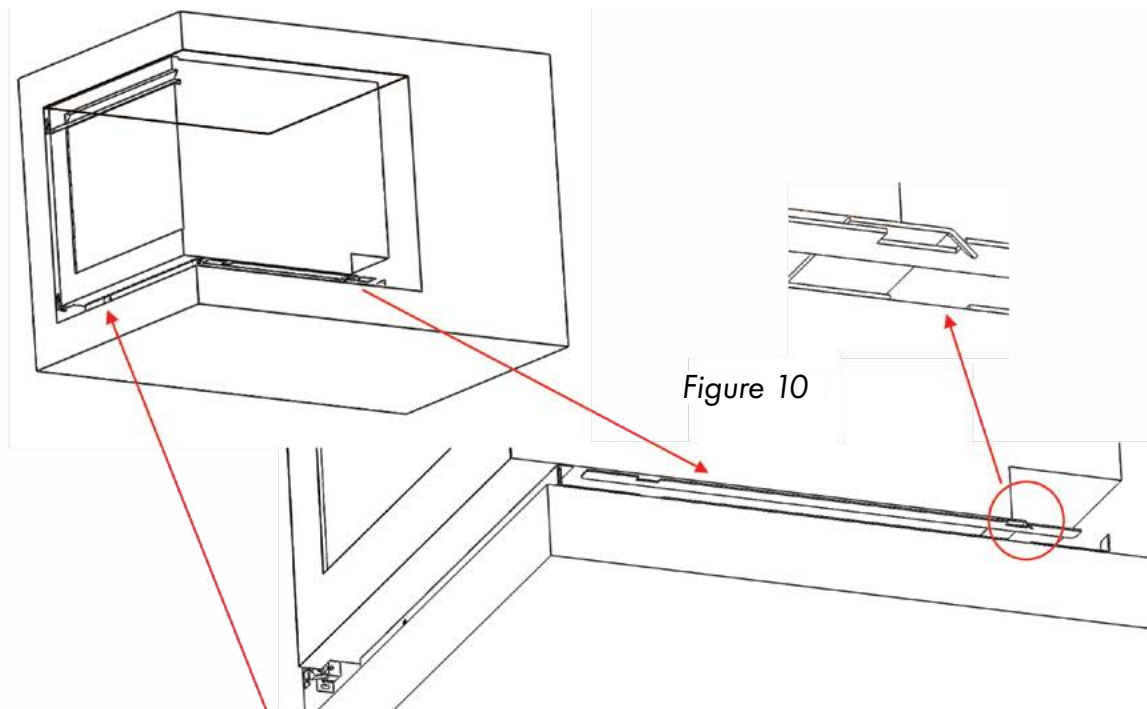

Figure 10
5. Using two people, lift the microwave and push it into the cabinet until the two small lips in the rear bracket slide into both holes in the rear of the support beams fastened in Step 1 to the bottom of the cutout (see *Figure 10*).